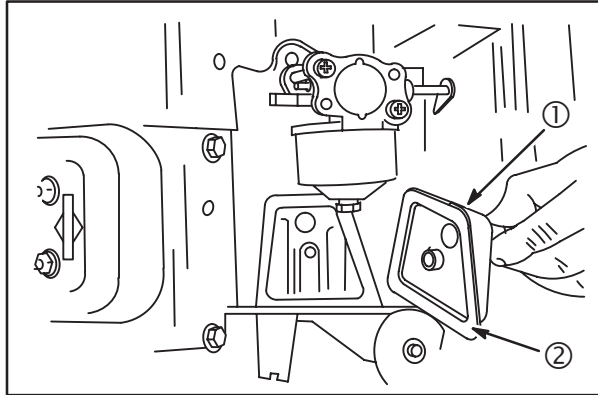

Fig. 5
Remove breather assembly (1). Discard gasket (2), **Fig. 5.**